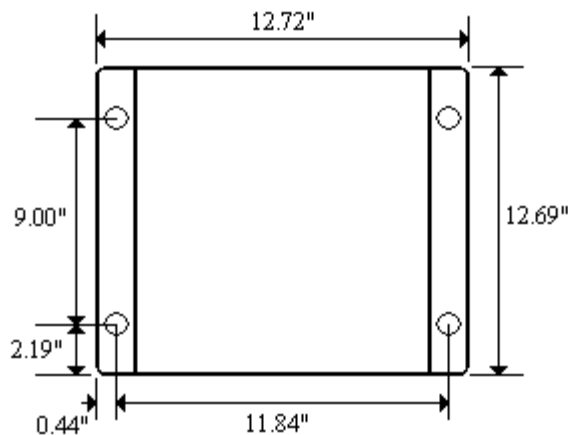

Figure 1. SmartBoost 50™ Mounting Dimensions
Figure 1 contains the mounting dimensions of the SmartBoost 50™. All dimensions shown are in inches.
1.	With the SmartBoost 50™ positioned and flush in the desired location, mark the four mounting holes. Figure 1 diagram can also be used to mark the mounting holes.